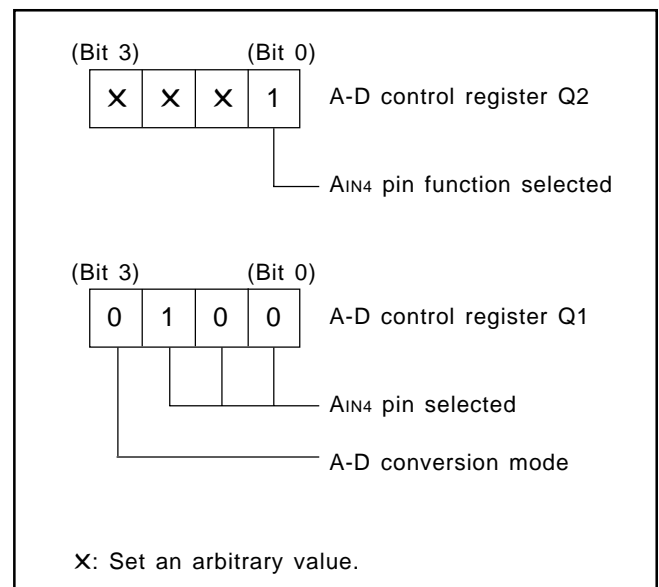

Fig. 35 Setting registers
- ① Select the AIN4 pin function with the bit 0 of the register Q3. Select the AIN4 pin function and A-D conversion mode with the register Q1 (refer to Figure 35).
- ② Execute the ADST instruction and start A-D conversion.
- ③ Examine the state of ADF flag with the SNZAD instruction to determine the end of A-D conversion.
- ④ Transfer the low-order 2 bits of converted data to the high-order 2 bits of register A (TALA instruction).
- ⑤ Transfer the contents of register A to  $M(Z, X, Y) = (0, 0, 2)$ .
- ⑥ Transfer the high-order 8 bits of converted data to registers A and B (TABAD instruction).
- ⑦ Transfer the contents of register A to  $M(Z, X, Y) = (0, 0, 1)$ .
- ⑧ Transfer the contents of register B to register A, and then, store into  $M(Z, X, Y) = (0, 0, 0)$ .